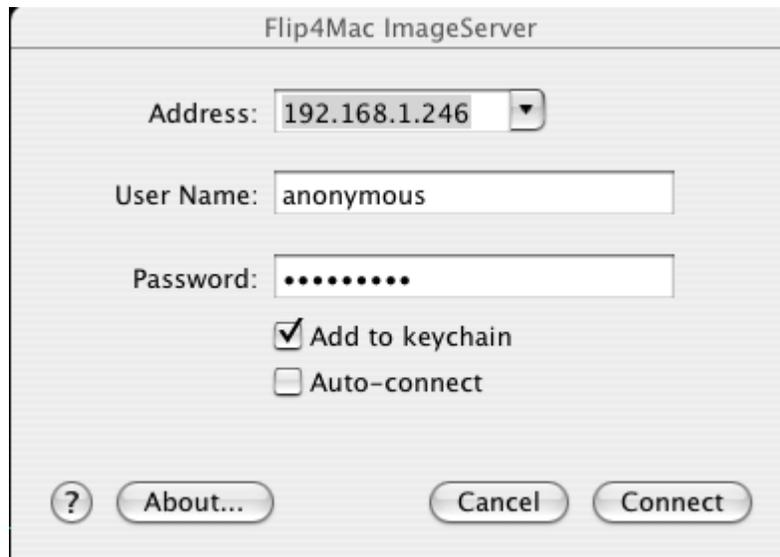

Figure 2 – Image Server Connect Screen
- A pop-up (Figure 2) prompts for the IP address, User Name and Password. Enter the IP address in the designated field. Enter **Anonymous** for the User Name. Click on **CONNECT**